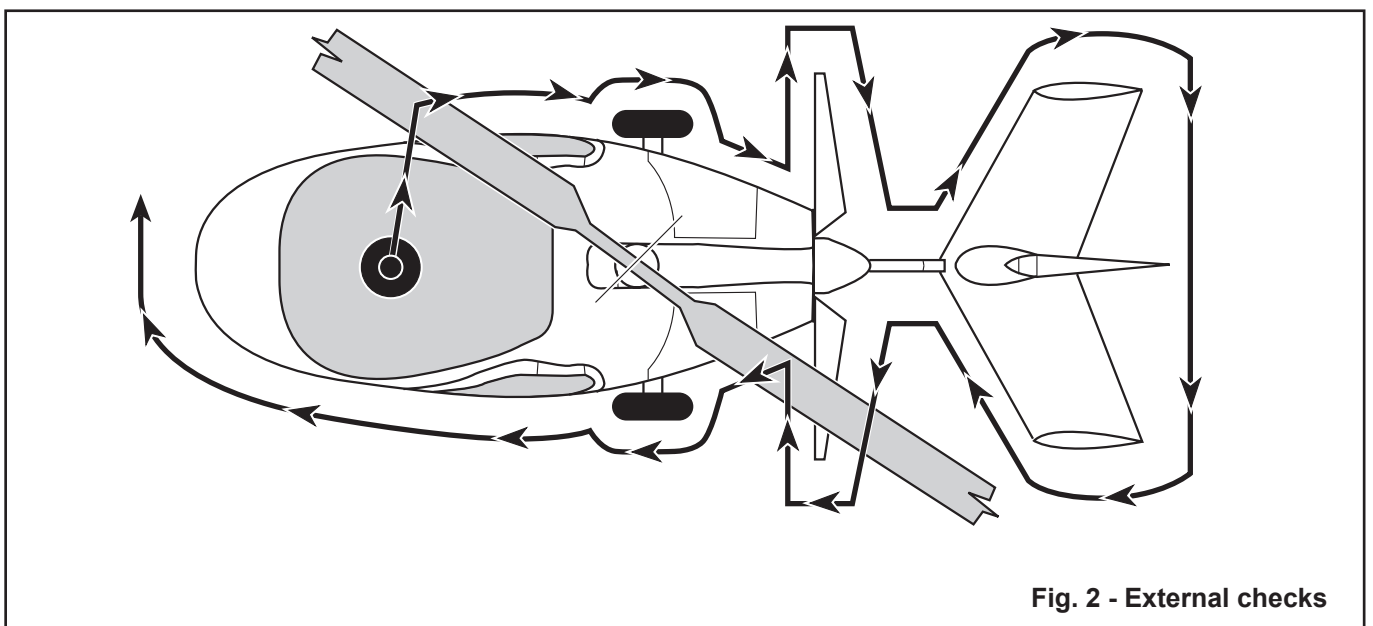

Fig. 2 - External checks
4.6.2 EXTERNAL CHECKS (Fig. 2)